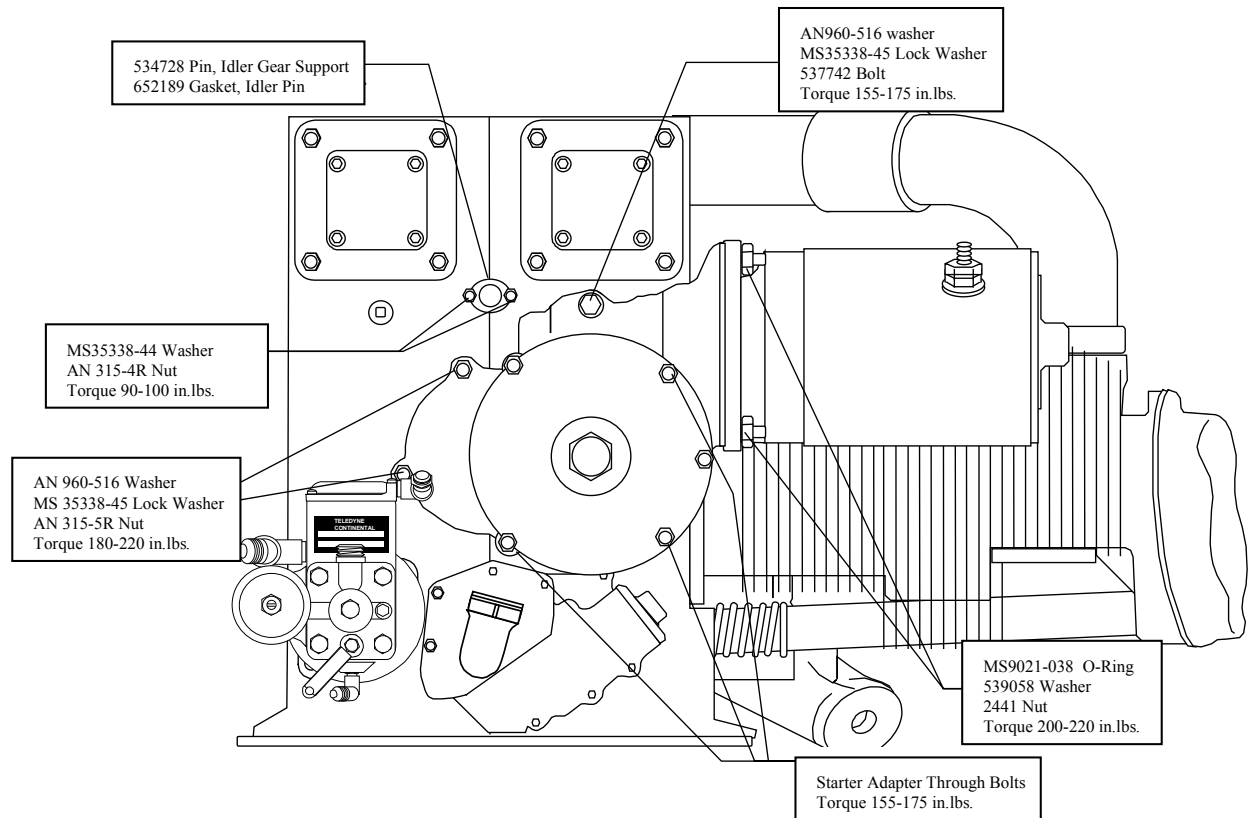

FIGURE 5. STARTER ADAPTER ASSEMBLY
3. Remove the two nuts P/N 2441 and washers P/N 539058 that attach the starter to the adapter. See Figure 5 on page 8.
4. To remove the starter adapter from the engine, remove two sets of nuts P/N AN315-5R, lock washers P/N MS35338-45, and plain washers P/N AN960-516. Remove the top starter adapter bolt P/N 537742, lock washer P/N MS35338-45, and plain washer P/N AN960-516. Loosen the three starter adapter through-bolts located between the starter adapter housing and torsional damper that are positioned at the two, five and seven o'clock positions. Loosen each of these through-bolts until they contact the torsional damper. Pull the starter adapter away from the engine crankcase as far as possible. Repeat this procedure until the bolt threads are no longer engaged in the crankcase. See Figure 5 on page 8 for location of hardware.
11. Using a new gasket reinstall starter adapter in the reverse order of removal. Reinstall starter motor using new O-ring. Refer to Figure 5 on page 8 for attaching hardware torque values.
8. Using a new gasket reinstall starter adapter in the reverse order of removal. Reinstall starter using new O-ring in the reverse order of removal. Refer to Figure 5 on page 8 for attaching hardware torque values.